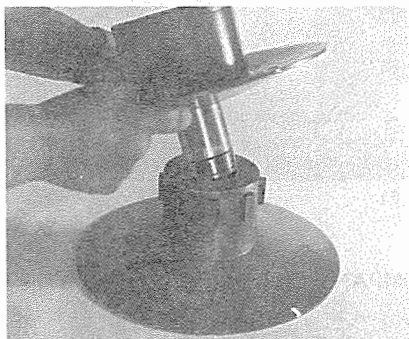

Figure 28
3. Line up the alignment marks on the two flanges. Taking care not to pinch the o-rings, lower the adjustable flange over the sleeve (Figure 28), piloting the resilient pads into their keyways. **Do not** bounce or cock the flange on the sleeve, as it may damage the o-rings.